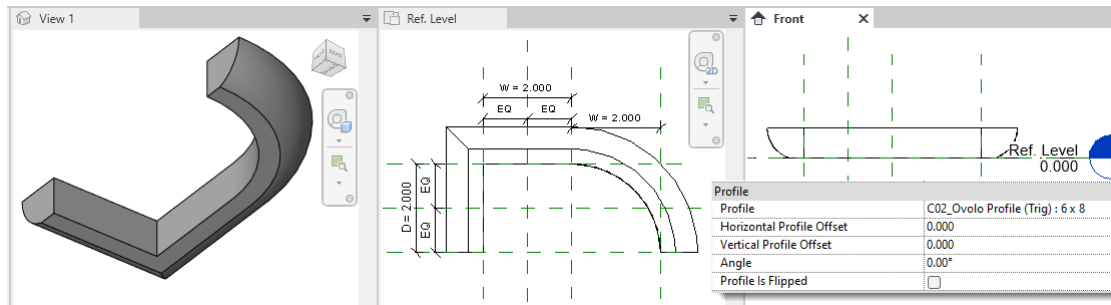

Figure 26—Apply the profile to the sweep form
14. Select the sweep and edit it. On the ribbon, click the Select Profile button and then from the drop-down list, choose one of the types you previously defined (Figure 26 shows the 6 x 8 type applied).